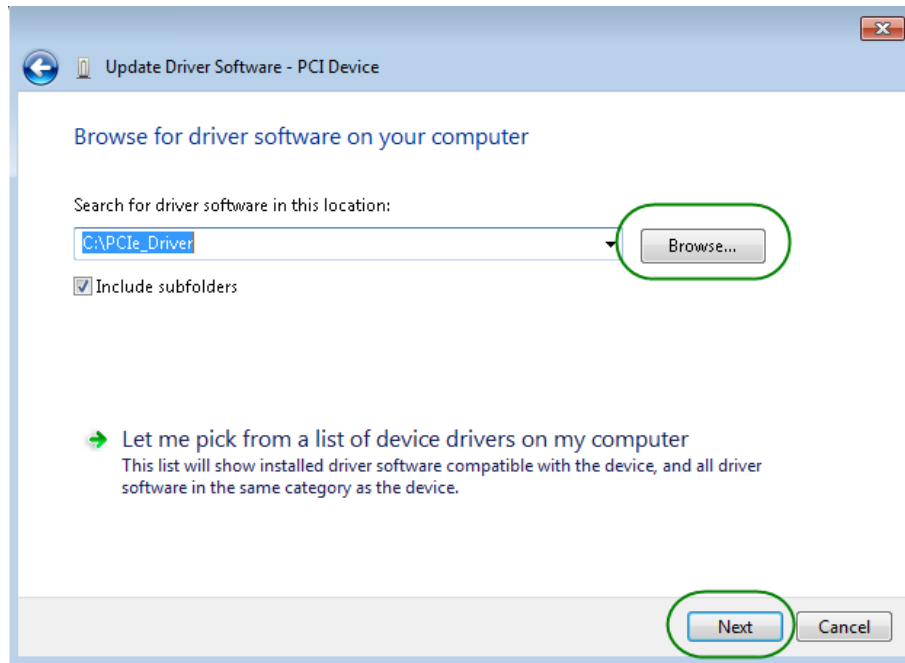

Figure 7-6 Browse for driver software on your computer
9. In the **Browse for driver software on your computer** dialog, click the **Browse** button to specify the folder where `altera_pcie_din_driver.inf` is located, as shown in **Figure 7-6** Click the **Next** button.